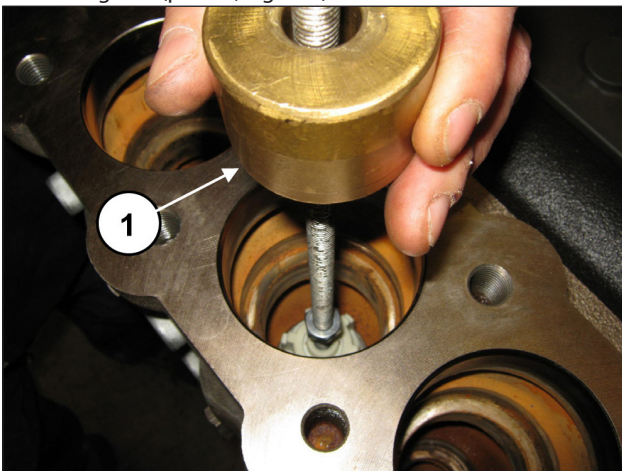

Fig. 101
Extract the suction valve unit with the use of an extractor hammer (code 27516400) to be applied on the M10 hole of the valve guide (pos. ①, Fig. 101).